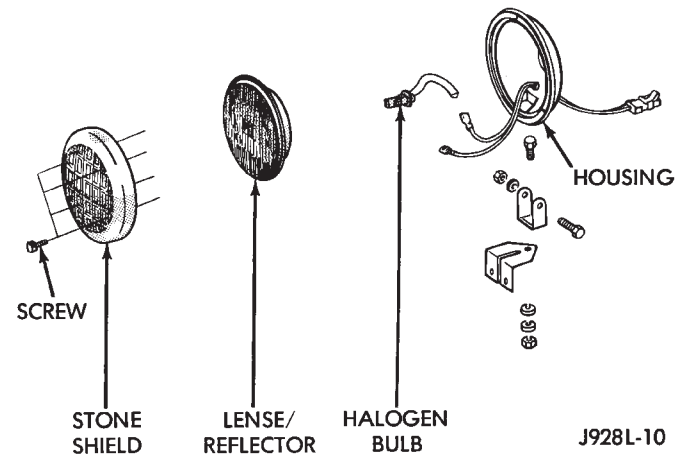

Fig. 35 Fog Lamp—YJ Vehicles
(1) For YJ vehicles, remove the screws that attach the stone shield and the reflector to the lamp housing. Remove the stone shield and reflector from the lamp housing (Fig. 35).